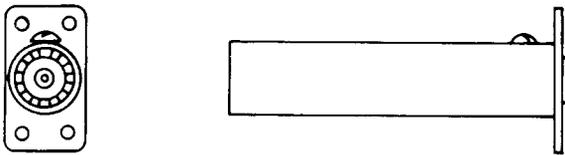

Fig. 13—563A Jack
**2.13 563A:** This coaxial-type jack (Fig. 13) is designed to be used with the 51A pad and a 358A or similar plug and is tested at 2000 volts ac. This jack is equipped with a center conductor which is designed for a soldered wire connection. The outer conductor is electrically common with the mounting plates. The mounting hardware is not furnished, but must be ordered separately. The 563A jack is used with the L4 Coaxial System.